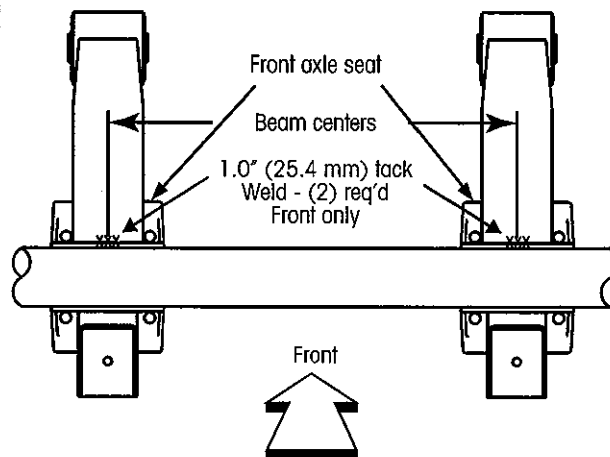

Figure 3: Locations of tack weld
3. Place a 1 inch (25.4 mm) long **tack weld** on the front axle seat in the center of each suspension beam/axle connection, one tack weld is required per suspension beam, Figure 3.